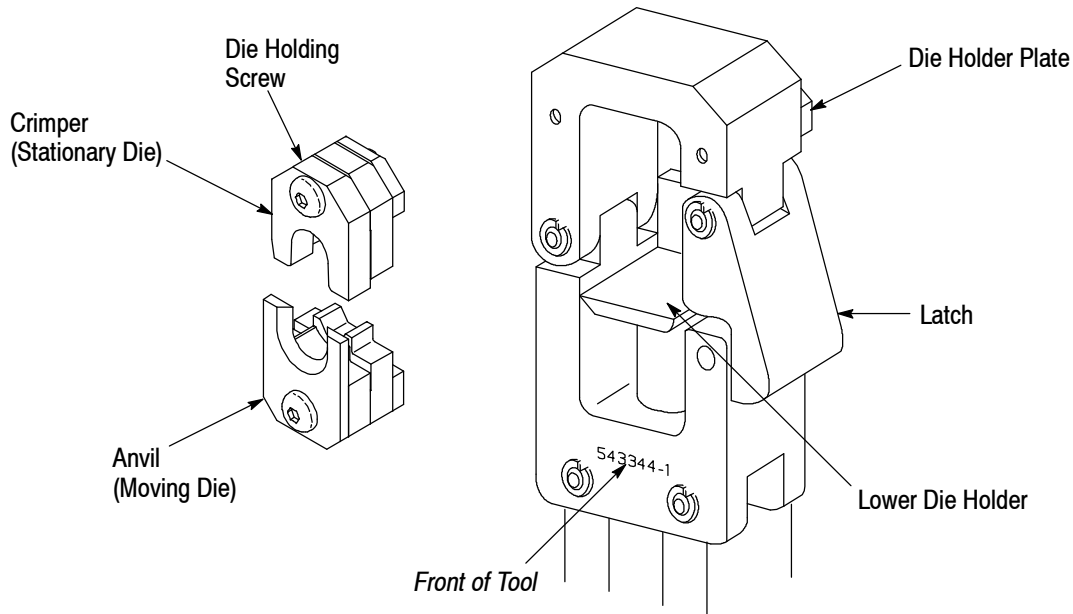

Figure 2
**3.1. Installation** (Refer to Figure 2)
**NOTE**  Each set of dies consists of an anvil (moving die) and a crimper (stationary die). Most moving dies have square corners and the stationary dies have chamfered corners. Refer to Figure 2. Exceptions to this feature will be shown on the instruction sheet packaged with the dies.